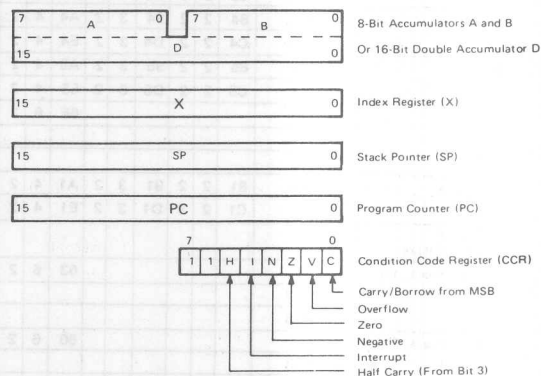

Figure 23 CPU Programming Model
- CPU Programming Model (Figure 23)
The programming model for the HD6801S is shown in Figure 23. The double (D) accumulator is physically the same as the Accumulator A concatenated with the Accumulator B so that any operation using accumulator D will destroy information in A and B.